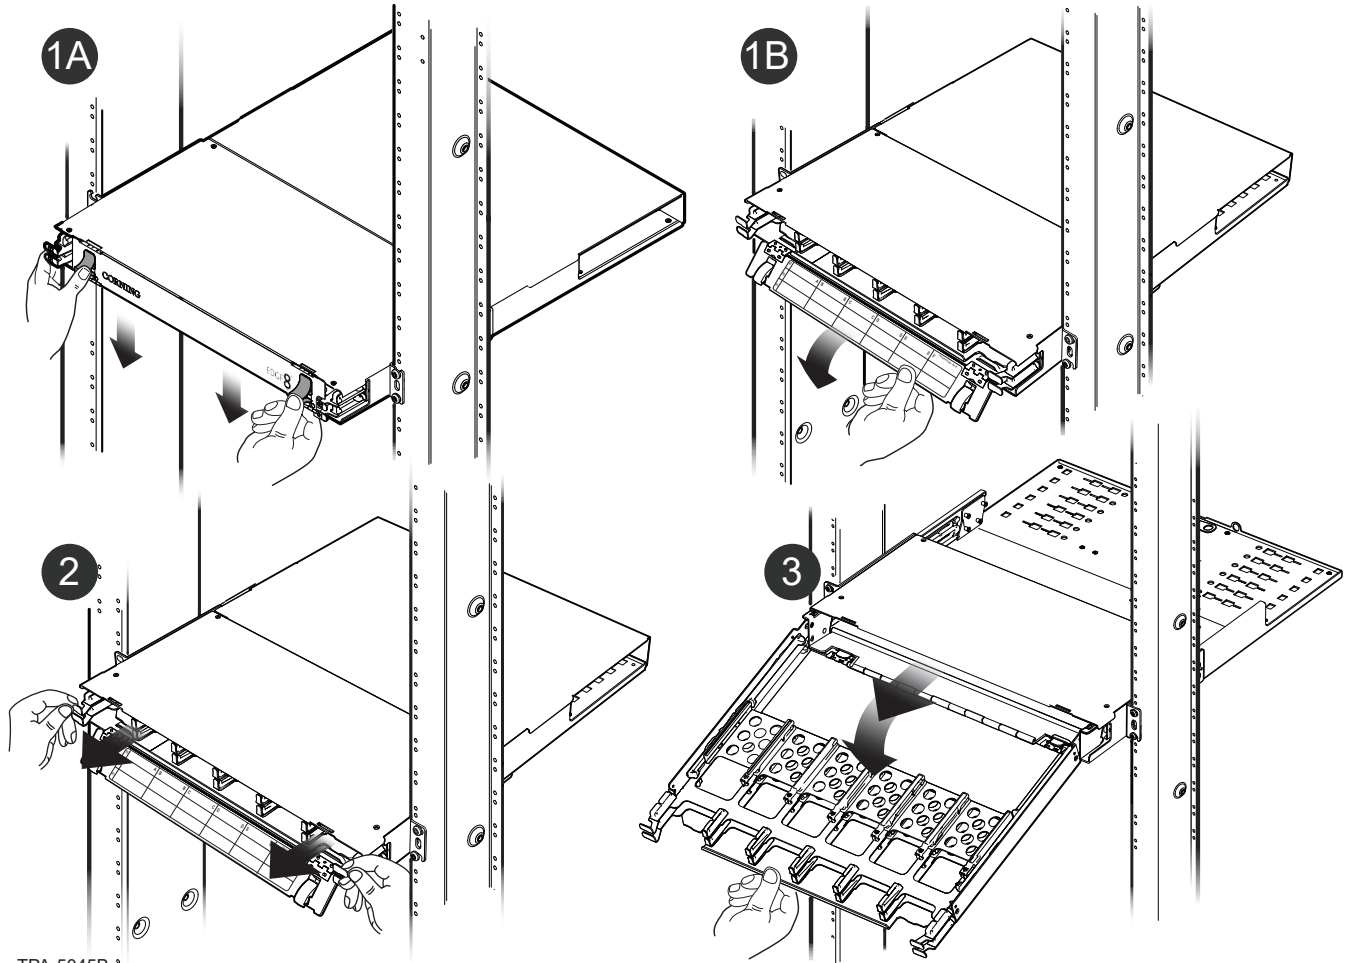

Figure 18— Lower Tilt-down Drawer
- Step 2:** Using tabs on the side of the drawer, lift and pull out drawer horizontally until reaching hard stops (Figure 18).
- Step 1:** Press latches down to open and lower front door (Figure 18).